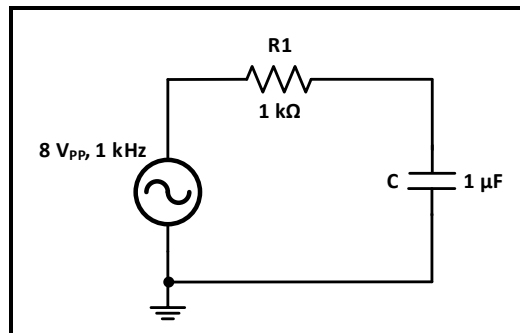

Figure 1.15
1. Connect the circuit shown in Figure 1.15, set the input voltage to sinusoidal voltage at $8 V_{PP}$ and 1 kHz (you will need to connect channel 1 of the oscilloscope to the input voltage).